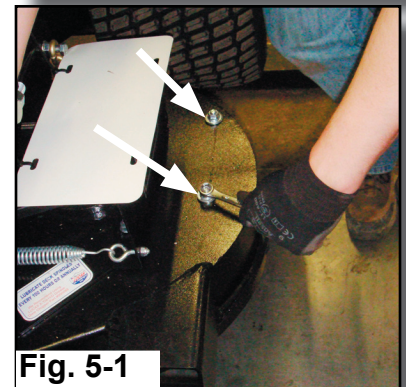

Fig. 5-1
1. Remove the two carriage bolts from the trim side of the mower deck, (Fig. 5-1).